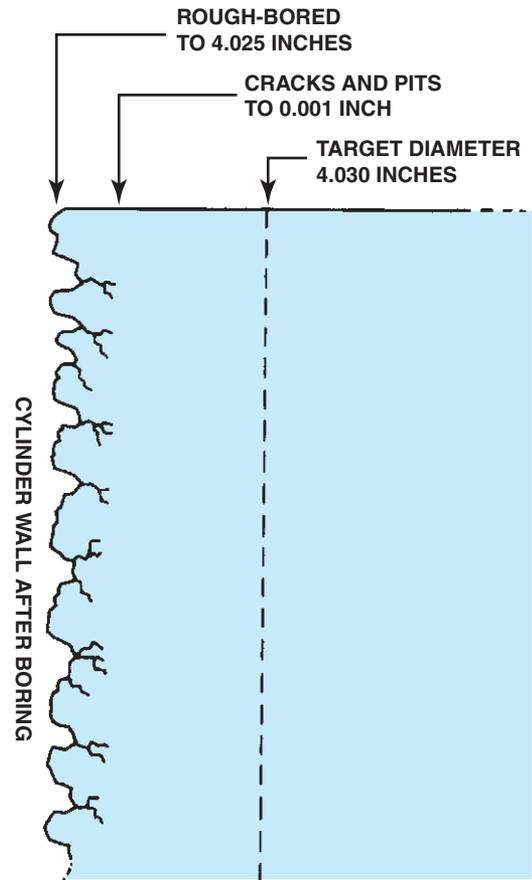

FIGURE 26-25 After boring, the cylinder surface is rough, pitted, and fractured to a depth of about 0.001 inch.
- A *sizing hone* can be used to straighten the cylinder and to provide a suitable surface for the piston rings. The cylinders must be honed a minimum of 0.002 inch (0.050 mm) after boring to cut below the rough surface and provide an adequate finish. Honing leaves a plateau surface that can support the oil film for the rings and piston skirt. This plateau surface is achieved by first using a coarse stone followed by a smooth stone to achieve the desired surface. The process of using a coarse and fine stone is called **plateau honing**. See Figure 26-25.